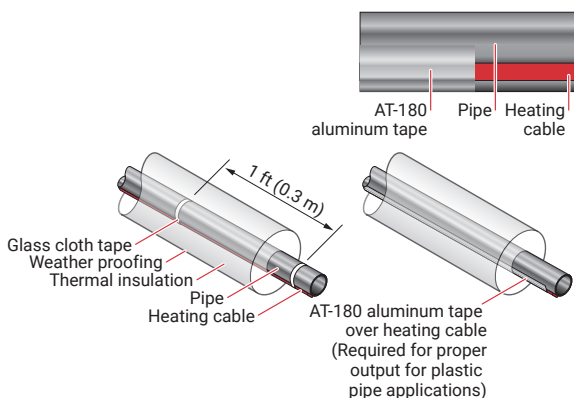

Figure 8: Attaching the heating cable
- Tape lengthwise over the heating cable as required by the design drawing or specification (see Figure 8).